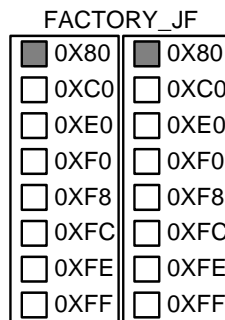

Figure 8: Edit Block View of DCM FACTORY\_JF Settings
- Check the two 0X80 options for the FACTORY\_JF DCM attribute, as shown in Figure 8.